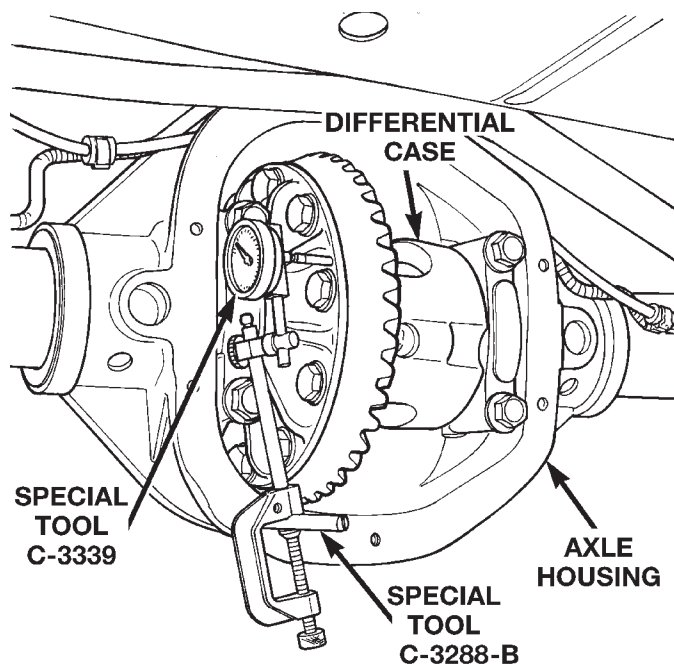

Fig. 75 Differential Side play Measurement
(8) Thread guide stud C-3288-B into rear cover bolt hole below ring gear (Fig. 75).
(9) Attach a dial indicator C-3339 to guide stud. Position the dial indicator plunger on a flat surface between the ring gear bolt heads (Fig. 75).
(20) Position the dial indicator plunger on a flat surface between the ring gear bolt heads. (Fig. 75).